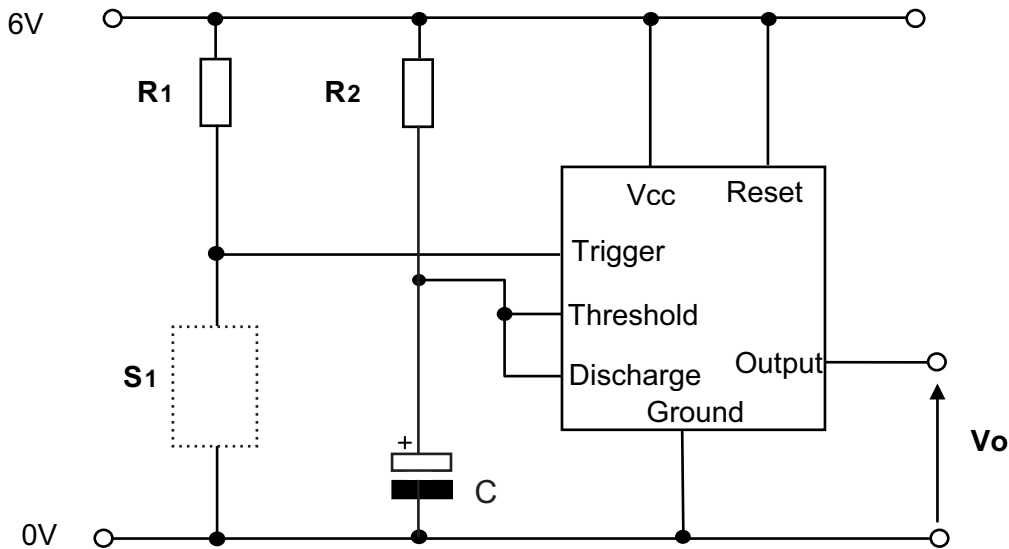

Fig. 9(b)
- (i) Explain with the aid of a diagram how the circuit shown in **Fig. 9(b)** could be modified to enable the time period to be adjustable. [2]